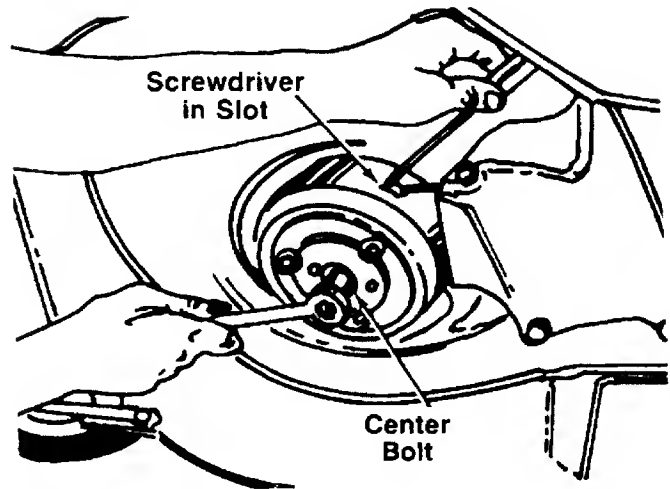

FIGURE 26.
- a. Insert a screwdriver into the slot provided in the blade brake/clutch housing where the control cable enters housing. See figure 26.